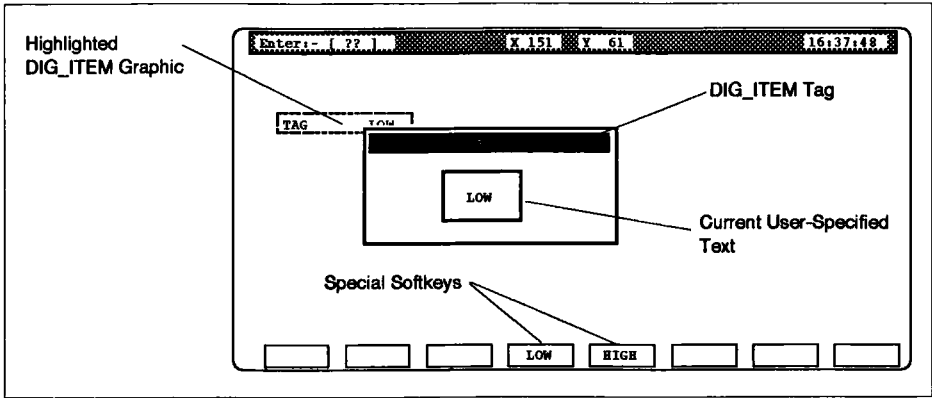

Figure 5.3 ENTERing a DIG\_ITEM Graphic at Runtime
**Types of Interaction.** What happens when you ENTER the graphic object depends on the type of object and how it has been configured. Objects that are always *static* graphics (e.g. TEXT, POLYLINE) or that have not been linked to the control strategy, or have not been enabled, simply ignore being selected. Other (*dynamic*) objects respond with either a numeric keyboard, an options menu, a set of new softkeys, a special screen display or a combination of these allowing the operator to select an item or to read and enter data. Table 5.2 summarises the responses of T1000’s dynamic graphic objects to runtime entry, and Figures 5.3 and 5.4 show two examples. Details are given in Chapter 8, *T1000 Runtime Interface: Reference*.